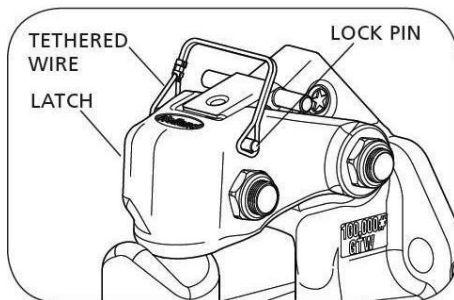

Figure 6.8
- Unlock and remove the tethered lock pin, if applicable (Figure 6.8).
- Insert the tethered lock pin through the latch and lock holes, and close the tethered wire lock pin. (Figure 6.8).